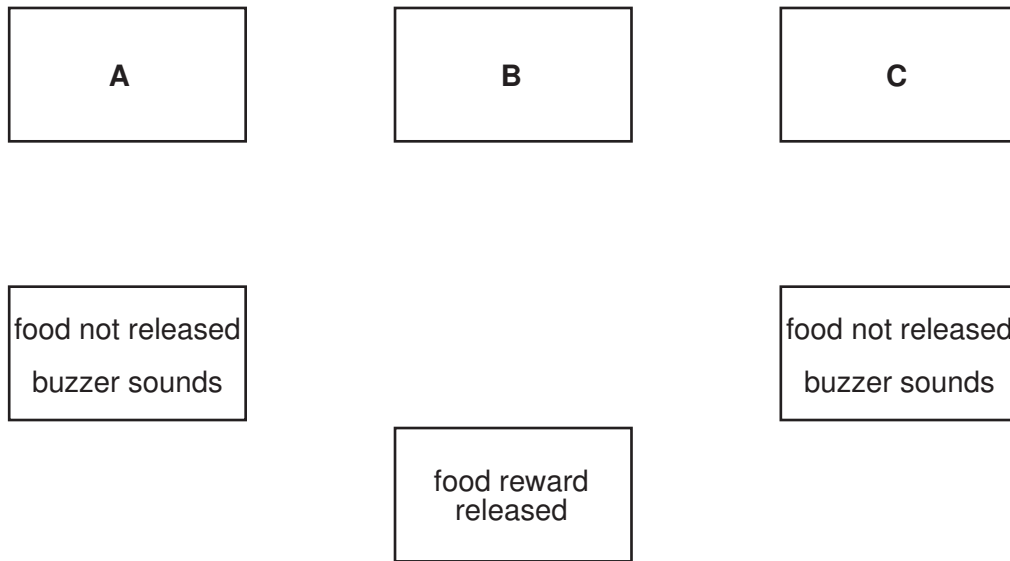

Fig. 3
- (f) The pet is to be trained to press buttons in a specific order to receive a food reward. Fig. 3 shows the arrangement of buttons to be pressed by the pet.